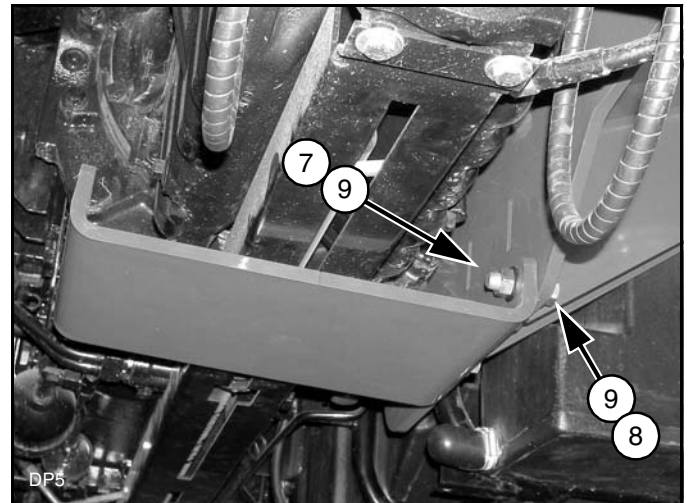

Figure 6. Crossmember to Rear Mount
4. Attach crossmember (3) to the right mount using two cap screws (8), four hardened flat washers (9), and hex nuts (7). See Figure 6.